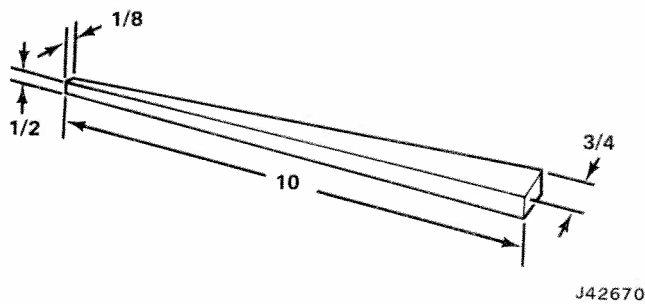
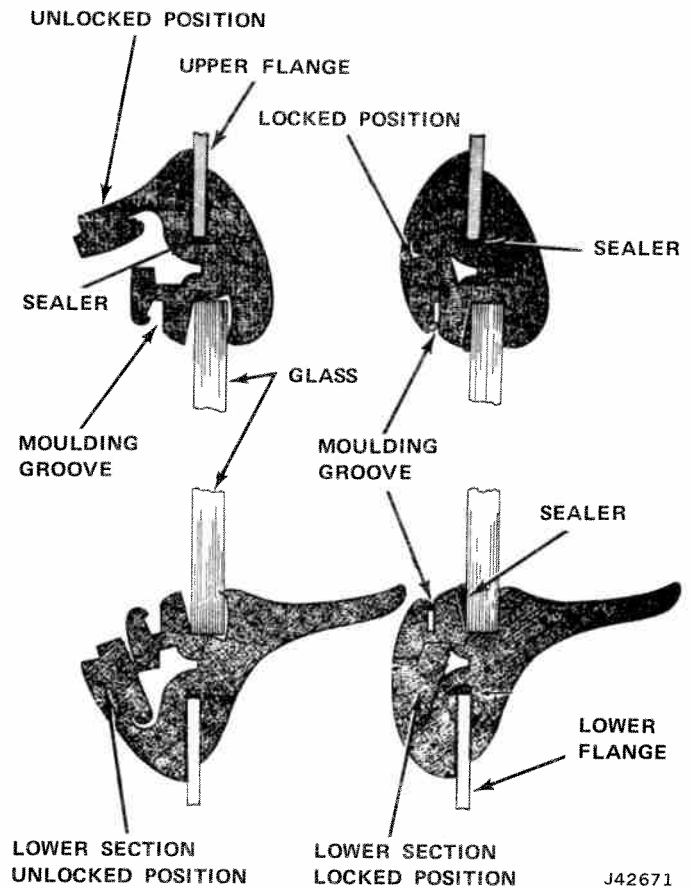

Fig. 17-2 Wooden Wand Dimensions (Inches)
Fig. 17-3 Windshield Weatherstrip Cross-section - Moulding Removed
On others an interlocking type lip is part of the weatherstrip as shown in figures 17-3 and 17-4.
(4) On units with locking-type weatherstrip, use a wedge shaped fiber or hardwood stick or wand as shown in figure 17-2 to unlock the weatherstrip as shown in figures 17-3 and 17-4.
(5) On vehicles with the stainless steel mouldings, remove the moulding screws at the top and bottom of the side mouldings.
(6) Remove top corner moulding by lifting the bottom and pulling outboard.
- (7) Side mouldings are tipped toward center of vehicle and lifted off.
- (8) Remove top moulding.
- (9) Slide center moulding clip to left or right and remove bottom mouldings.
- (10) This will expose the locking type weatherstrip (fig. 17-3).
applicator, apply a 1/16-inch bead of sealer completely around weatherstrip in flange cavity as shown in fig. 17-3.
(7) Use the wooden wand to lock weatherstrip as shown in the locked position (fig. 17-3 and 17-4).
(8) Using a pressure-type applicator, apply a medium-bodied sealer between the weatherstrip and glass on outside of glass around entire perimeter (fig. 17-3).